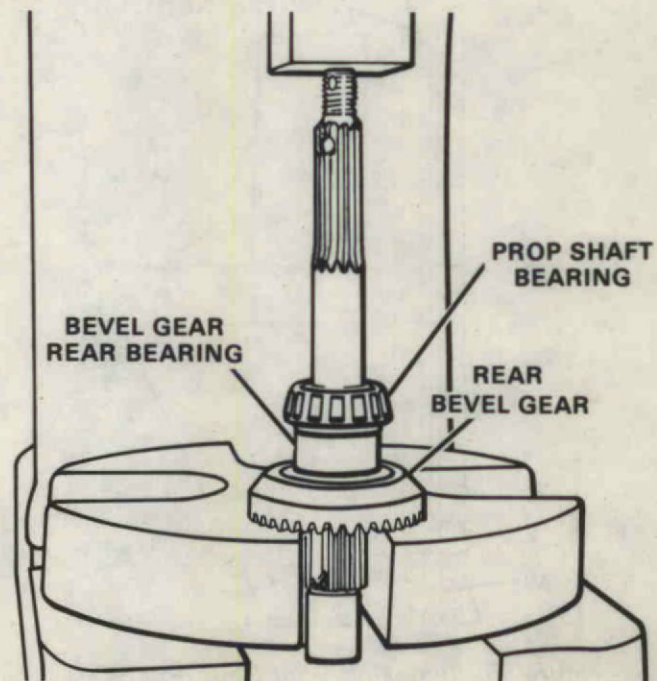

Figure 60. Removing Propeller Shaft Components.
A. Place propeller shaft in an arbor press. Figure 60.
J. After determining proper shims required, remove dial indicator and holder from shim adapter. Remove two (2) screws securing bearing cage to shim adapter and remove bearing cage. Remove T 8995 shim spacers and remove propeller shaft from checking gauge.
K. Place propeller shaft in arbor press and remove prop shaft bearing from prop shaft as shown in Figure 60.